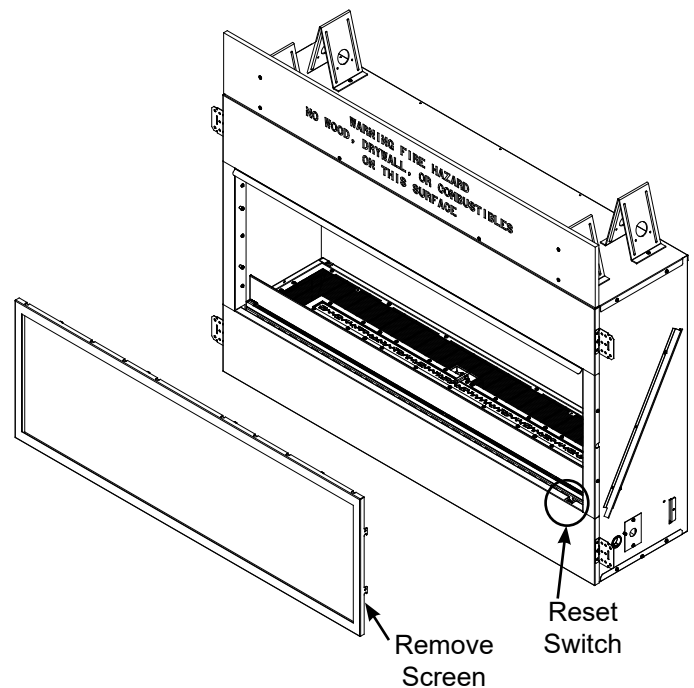

Figure 8.7 Reset Switch
- Locate the reset switch in the lower front face. (See Figure 8.7).
- Wait five (5) minutes to allow possible accumulated gas to clear.
- Turn the reset switch in the front face to the off position. See Figure 8.7.
E. Control module is locked out.	Reset the control module using the reset switch in the lower front face. See Figure 8.7.